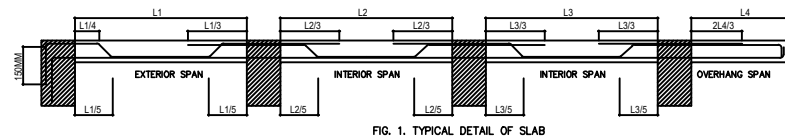

FIG. 1. TYPICAL DETAIL OF SLAB
- B. UNLESS OTHERWISE DETAILED IN CONTINUOUS SLABS HAVING SAME REINFORCEMENTS RUNNING IN ONE DIRECTION, REINFORCING BARS SHALL BE BENT UP OR EXTENDED AS SHOWN IN FIGURE 1.